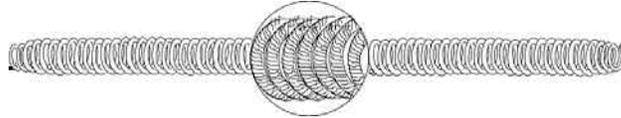

Figure 18. Drive Spring.
5. Check for kinked, damaged, or broken drive spring (Figure 18).
6. Check for broken strands on drive spring (Figure 18), replace if any are found.